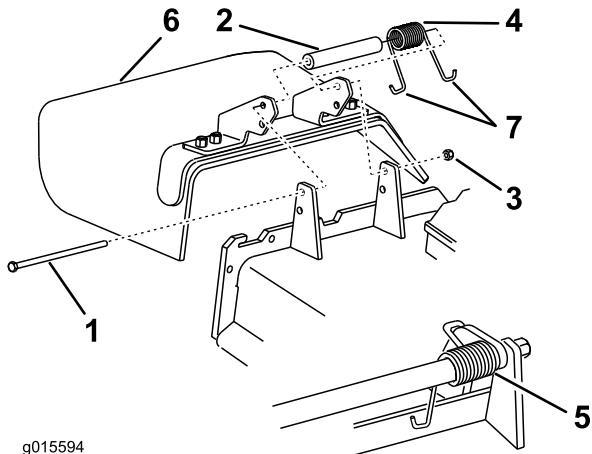

Figure 100
1. Remove the locknut, bolt, spring, and spacer holding the deflector to the pivot brackets (Figure 100).
Note: Make sure one J end of the spring is installed behind the deck edge before installing the bolt as shown in Figure 100.
4. Install the bolt and nut. Place one J hook end of the spring around the grass deflector (Figure 100).